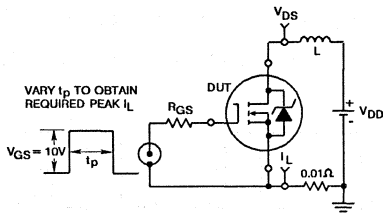

Fig. 14 — Unclamped Energy Test Circuit
4. V_{DD} = 50V, Start T_J = +25°C, L = 4.5mH, R_{GS} = 25Ω, I_{PEAK} = 8.1A (See Figures 14 & 15)
(See Figure 14, $L = 100\mu\text{H}$)